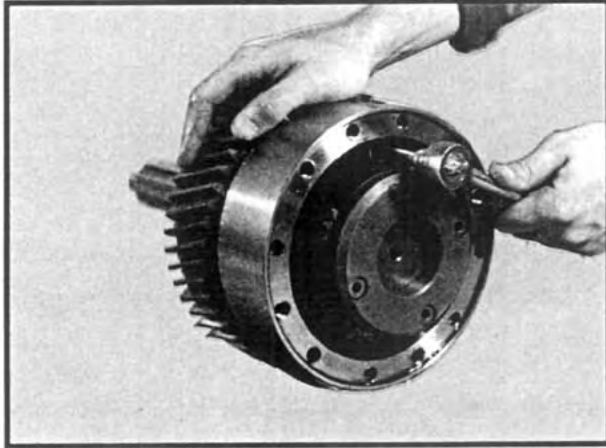

Fig 29
2. Remove the (12) bolts and separate the differential case halves. Remove the internal gear and thrust washer.
3. Remove the (6) 12-point cap screws securing the planet carrier to the front differential case. See Figure 29. Remove the planet carrier and sun gear assembly from the differential case assembly. Be careful not to lose the (2) dowel pins.